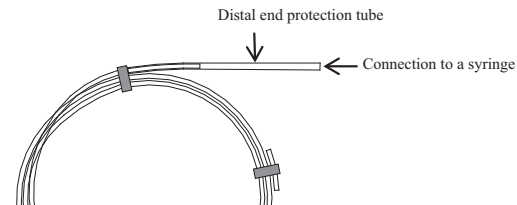

Figure 1
- For the holder with the distal end protection tube (refer to How to Use, Figure 1), do not remove or insert the distal end protection tube while the guide wire is housed in the holder.
- For the holder with the distal end protection tube (refer to How to Use, Figure 1), remove the distal end protection tube before housing the guide wire in the holder again.
entire device. Take note that heparinized and sterilized saline may spill out of the holder tube during at this time. For the holder with the distal end protection tube (Figure 1), a syringe can be connected to the distal end protection tube.